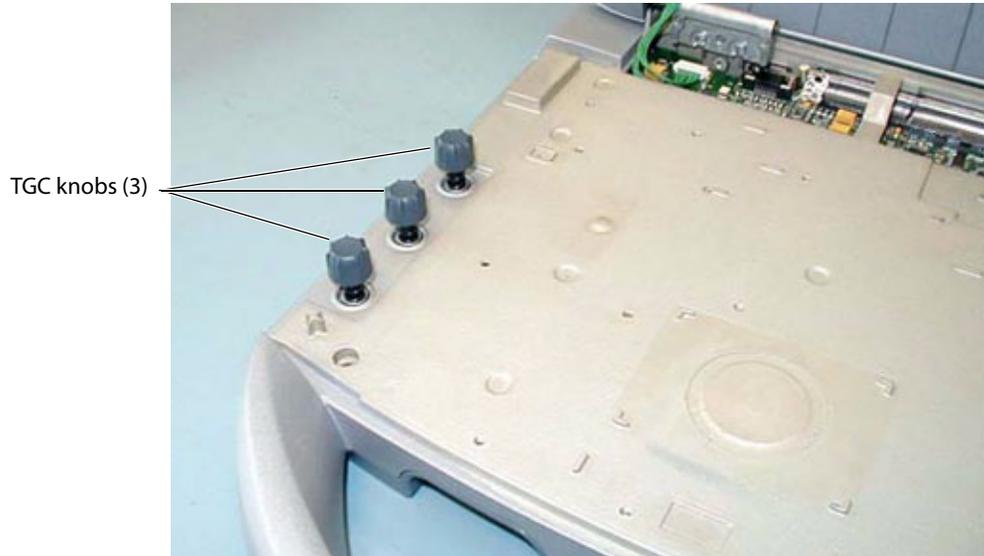

Figure 7.11 TGC Knobs
- 1 Remove the TGC knobs identified in Figure 7.11.